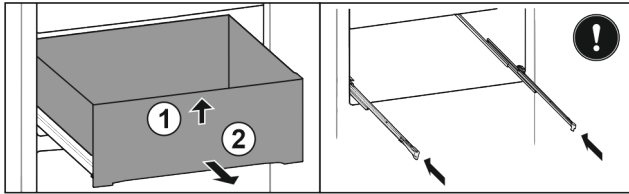

Fig. 37
- ▶ Lift up the drawer at the front Fig. 37 (1).
- ▶ Take out to the front Fig. 37 (2).